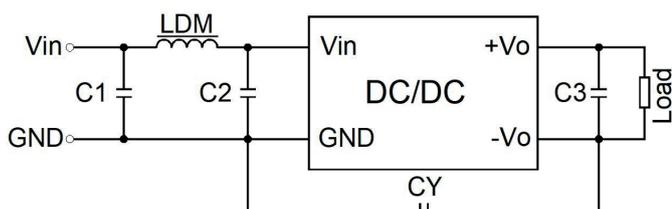

Figure 4
2. EMC recommended circuit: see figure 4